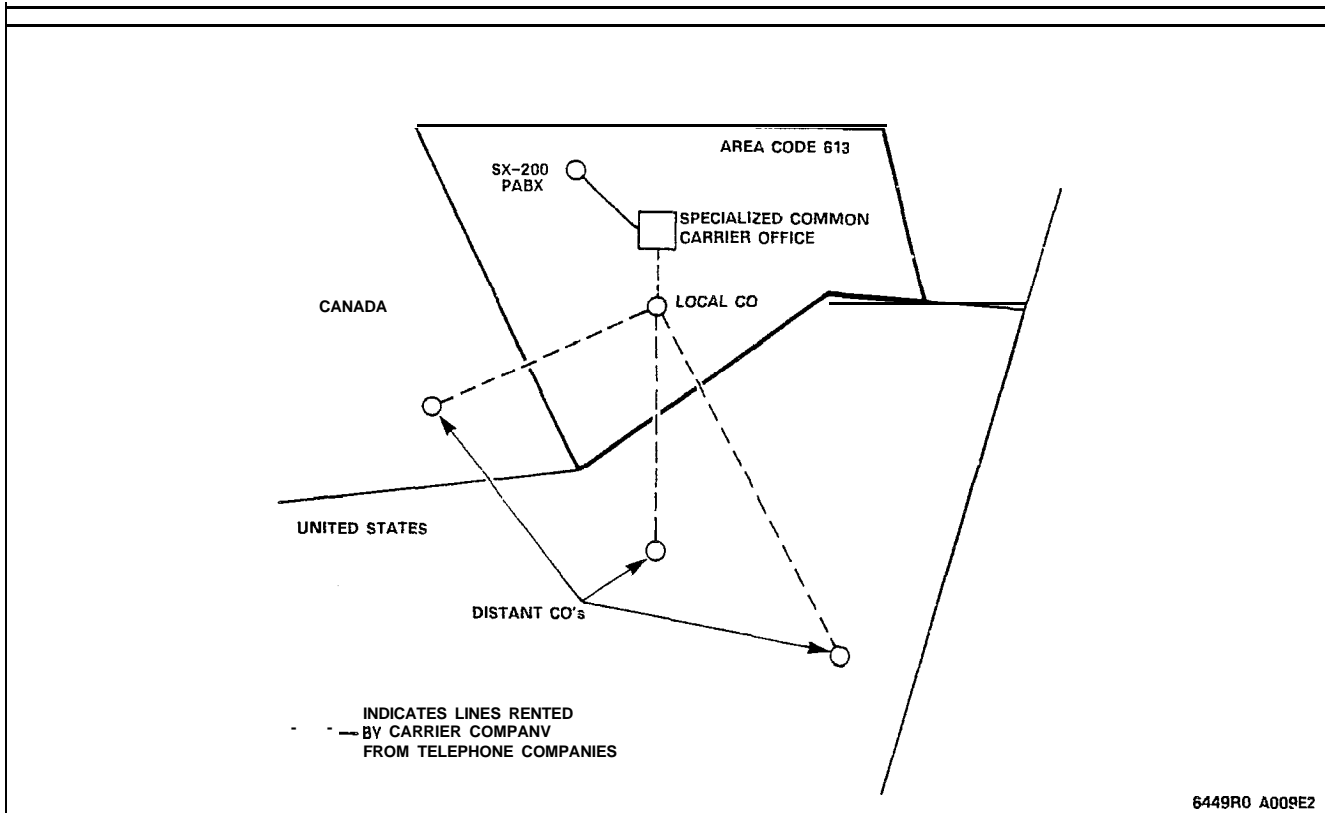

Figure 3-4 Typical SCC Arrangement
3.12 The restriction of this service is that some **SCC** directories are limited to major locations. Therefore, to avoid additional toll charges, the SCC company office must be within a local dialing distance. A typical SCC arrangement is shown in Figure 3-4.